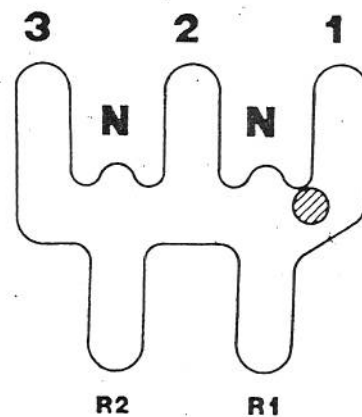

Figure 8
3. Move wheel drive control lever onto the hump between N and 1 (Fig. 8). Hold wheel drive control lever in this position—on hump.